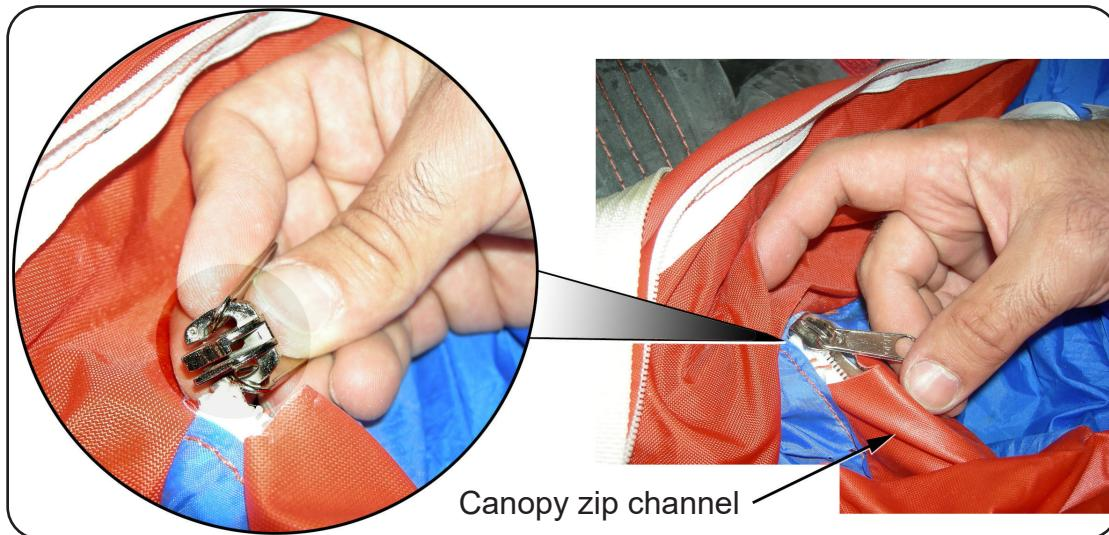

FIGURE 412
Refer to FIGURE 412.
- 4.2.7 Insert the zip puller into the canopy zip channel and push it fully through. Refer to FIGURE 412.